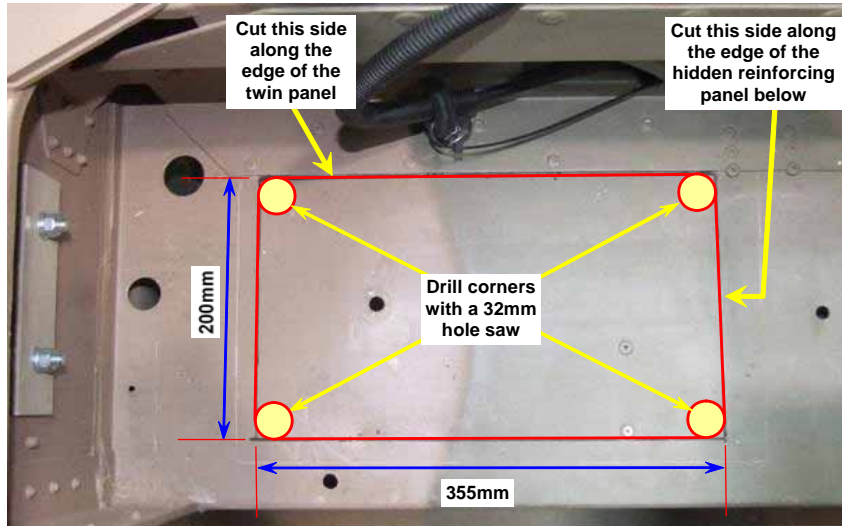

Figure 12 Location and Dimensions of the New Battery Box Opening
- (1) Measure and mark the location for a new 200 mm x 355 mm top opening into the battery box on the top of the left-hand side sponson as shown in Figure 12. Use a 32 mm hole saw (Table 3, Item 3) to drill out the four corners of the opening.